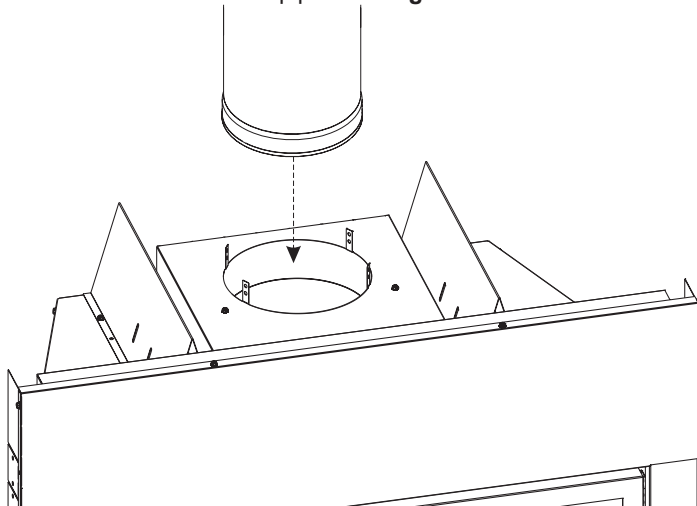

Figure 23
2. Insert the first piece of pipe and secure with 4 screws through the tabs and into the pipe. **See Figures 23 and 24.**